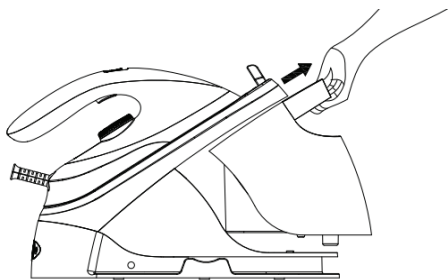
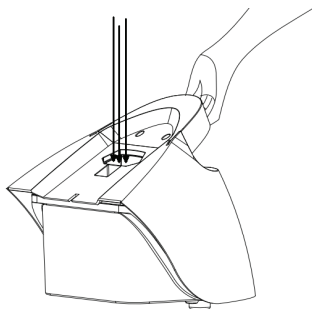

Fig.1
Fig.2
3. Take out the water tank and fill it with water (Fig. 1 & Fig. 2).